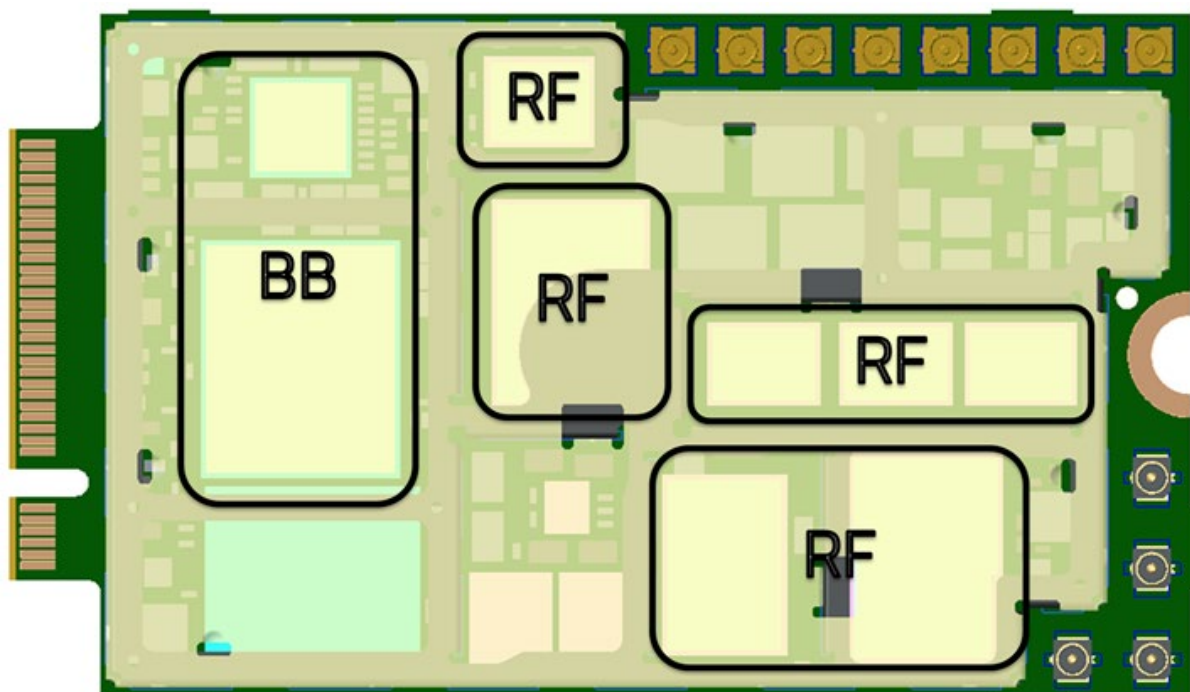
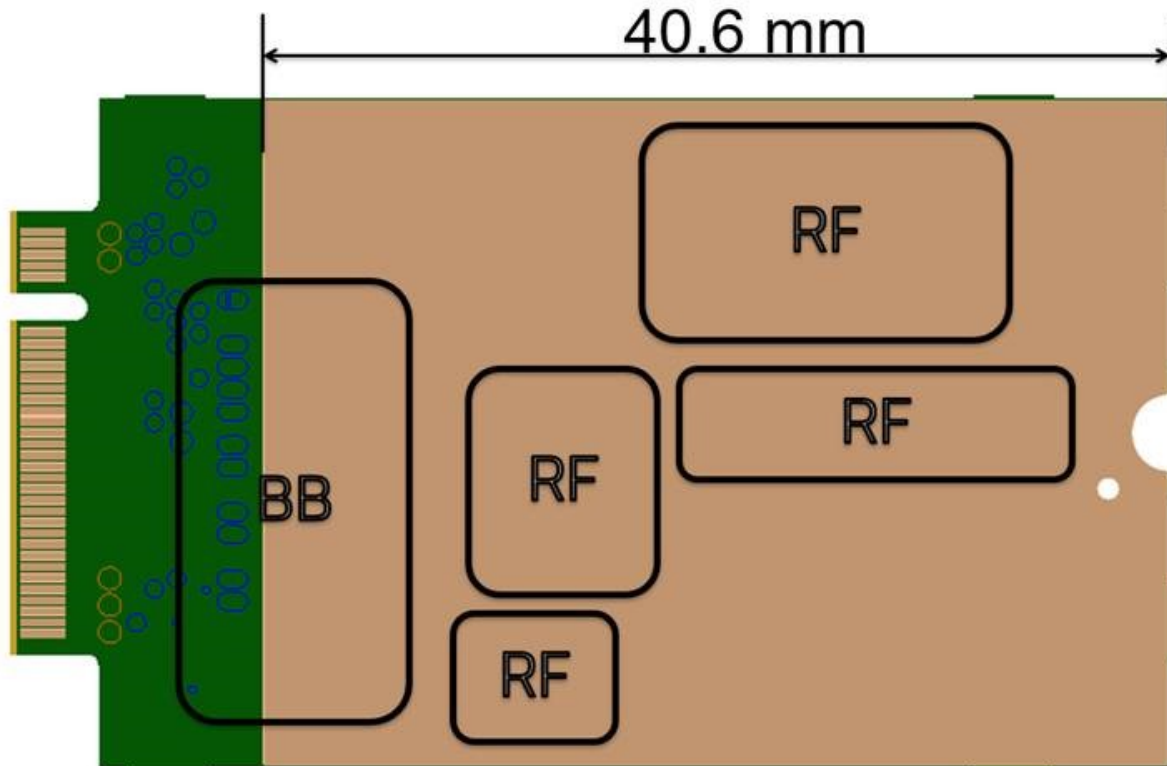

Figure 7-6 Shield Locations (Top View)
Figure 7-7 Copper Pad Location on Bottom Side of Module
Embedded modules can generate significant amounts of heat that must be dissipated in the host device for safety and performance reasons. Figure 7-6 and Figure 7-7 display the location of heat source.
Specific areas requiring heat dissipation are shown in Figure 7-7:
- Monitor temperature at all shield locations. Attach thermocouples to the areas indicated in Figure 7-6 (RF, Baseband).